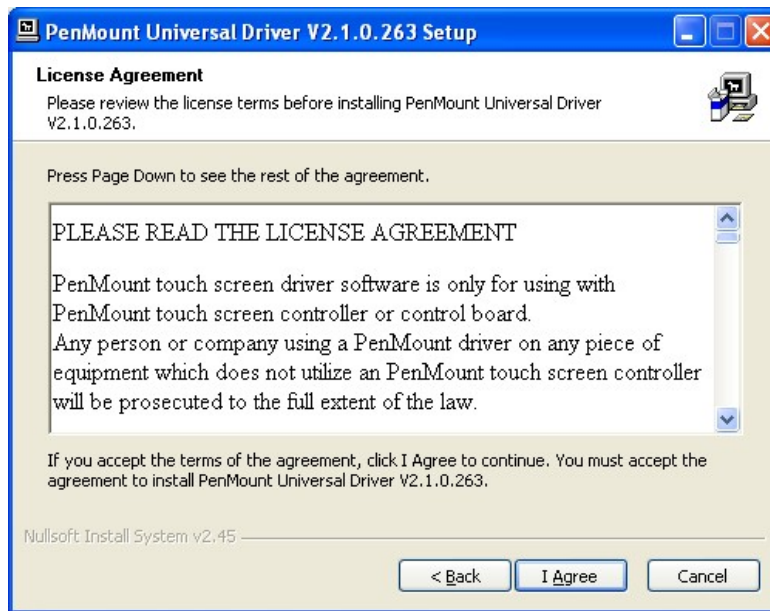

Figure 5-23: Touchscreen Driver License Agreement
Step 6: The **License Agreement** shown in Figure 5-23 appears.